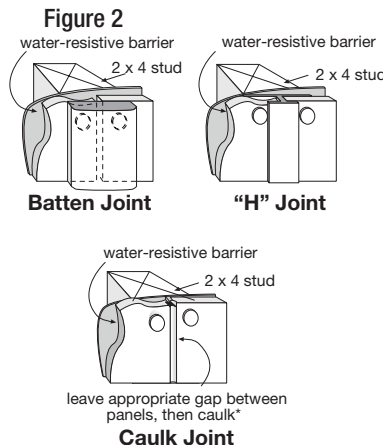

Figure 3
- When installing James Hardie products all clearance details in figs. 3,5,6,7,8,9,10 & 11 must be followed.
- Horizontal Joints - Provide Z-flashing at all horizontal joints (fig. 3).
Maintain a 1/4" clearance between the bottom of James Hardie products and horizontal flashing. Do not caulk gap. Refer to fig. 3 on page 1.